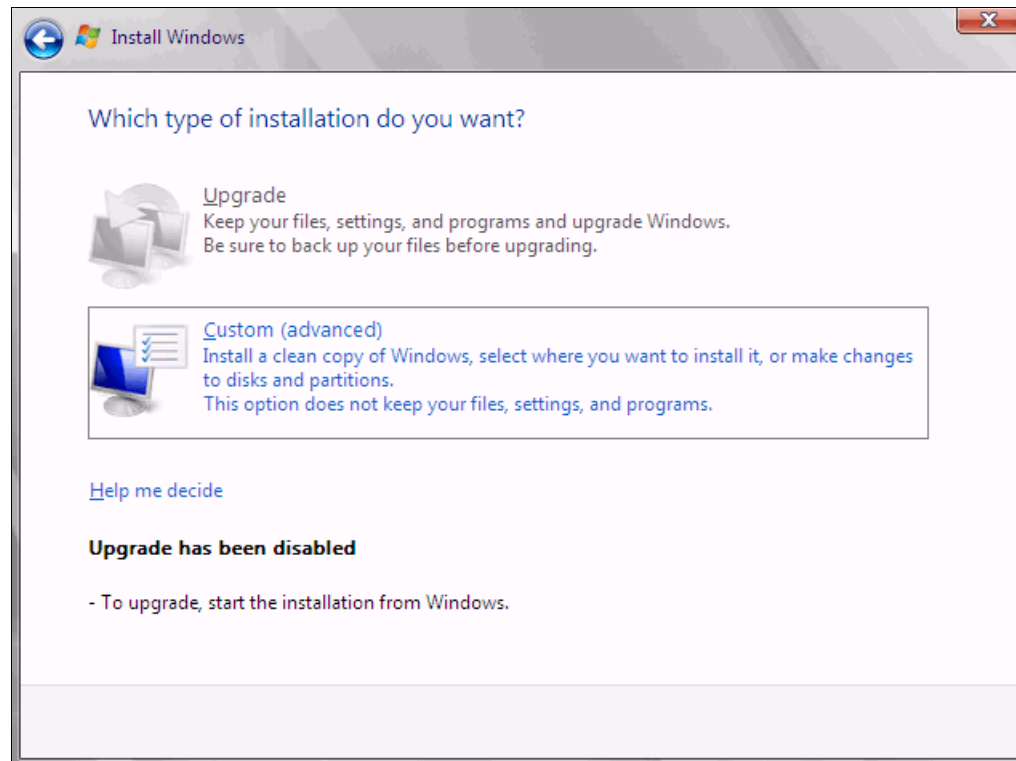

Figure 9-95 Selecting to install a clean copy of Windows
11. In the installation type panel (Figure 9-95), select **Custom (advanced)** to install a clean copy of Windows.